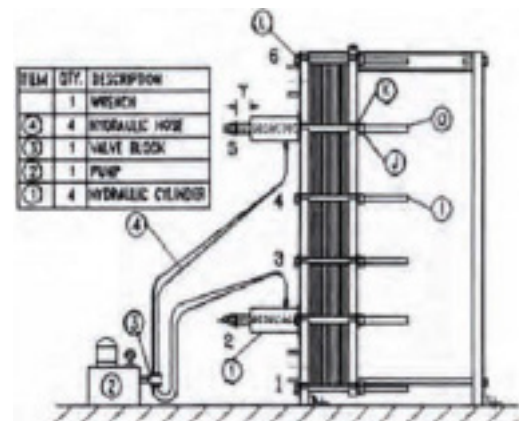

Figure 4.2 Hydraulic Opening of FLO PLATE
- With a wrench, loosen the hexagonal nuts (Item J, Figure 4.2) from the two pairs of tie rods (Item O) In positions 2 & 5 (also shown In Figure 4.2)
4. Install the nuts (Item L. Figure 4.2)